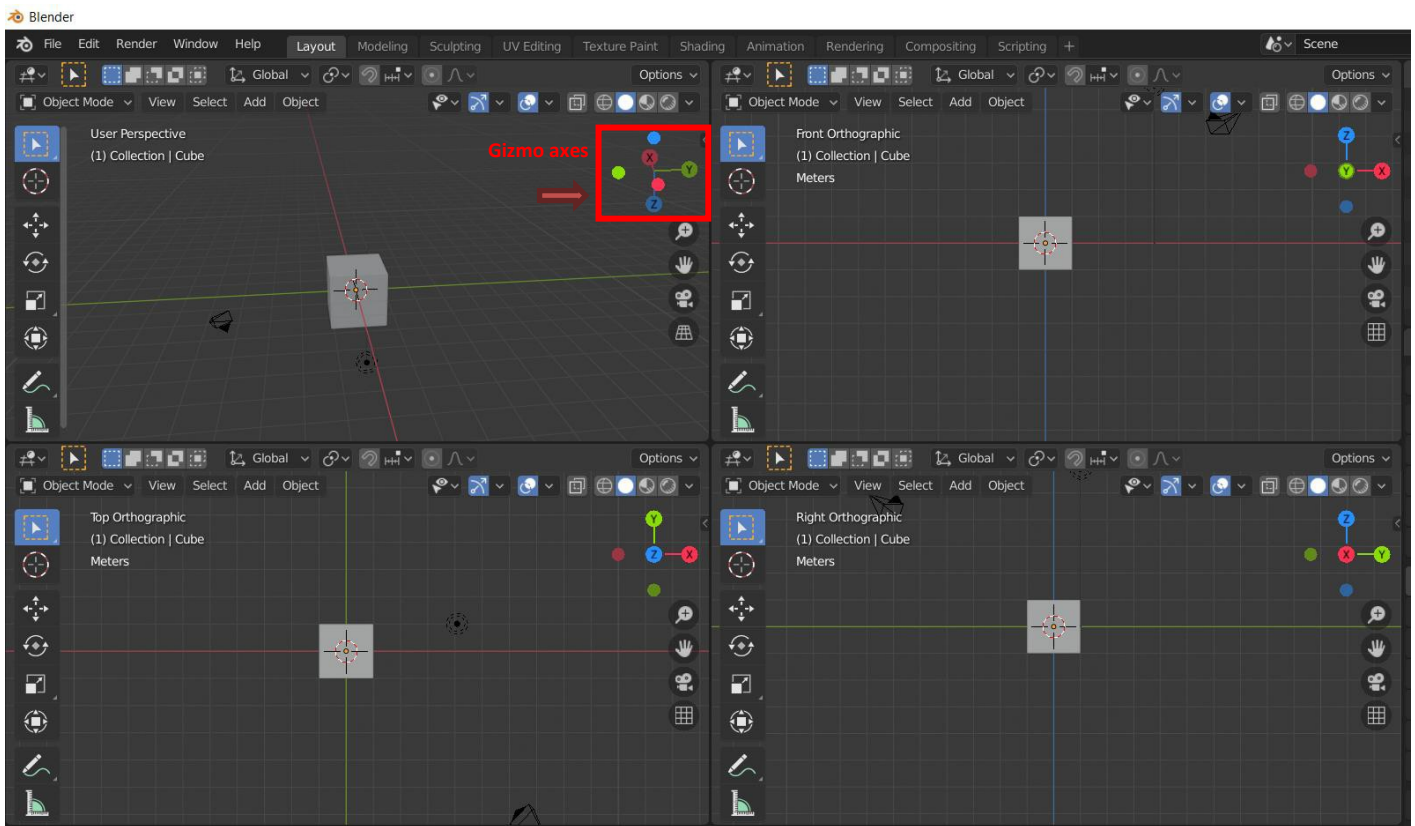

Figure 4
- Click **1** on your Numpad and you go from **User Perspective** to the **Front Orthographic view** / **3 = Right Orthographic view** / **7 = Top Orthographic View** / **Ctrl+1 = Back Orthographic view** / **Ctrl+3 = Left Orthographic view** / **Ctrl+1+7 = Bottom Orthographic view** / **9 = it is used to switch the view** (e.g. from Top orthographic to Bottom orthographic) (**Fig. 4**). All the views can be also accessed by clicking on the **gizmo axes** (**Fig. 4**).¹